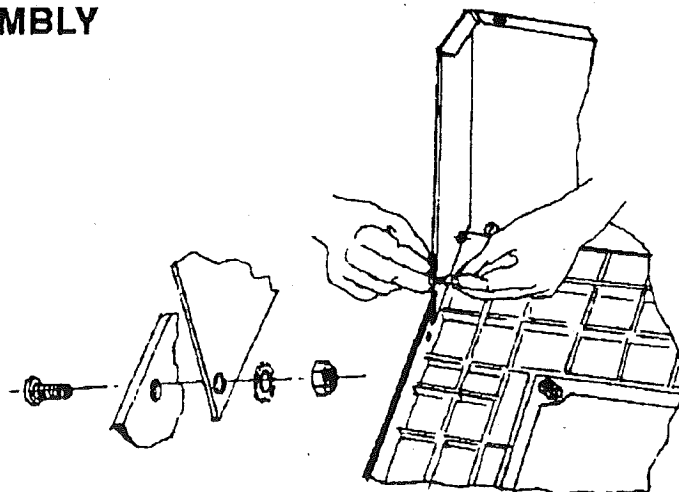

FIGURE 1.
2. Place one of the table legs at one end of the table as shown in Figure 1.